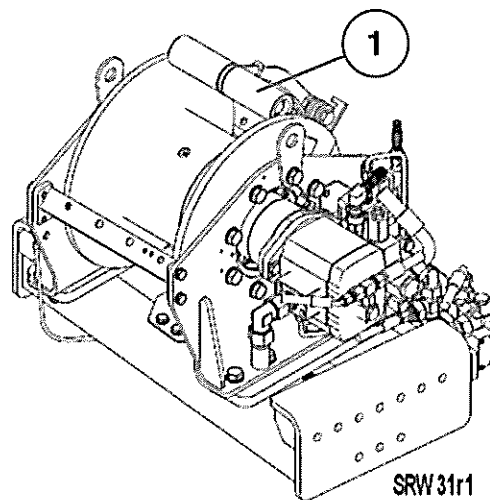

Fig 4 Pressure roller
6 Refer to Fig 4. A spring-loaded pressure roller (1) maintains a constant pressure on the wound rope, so that the rope spools correctly onto the drum.